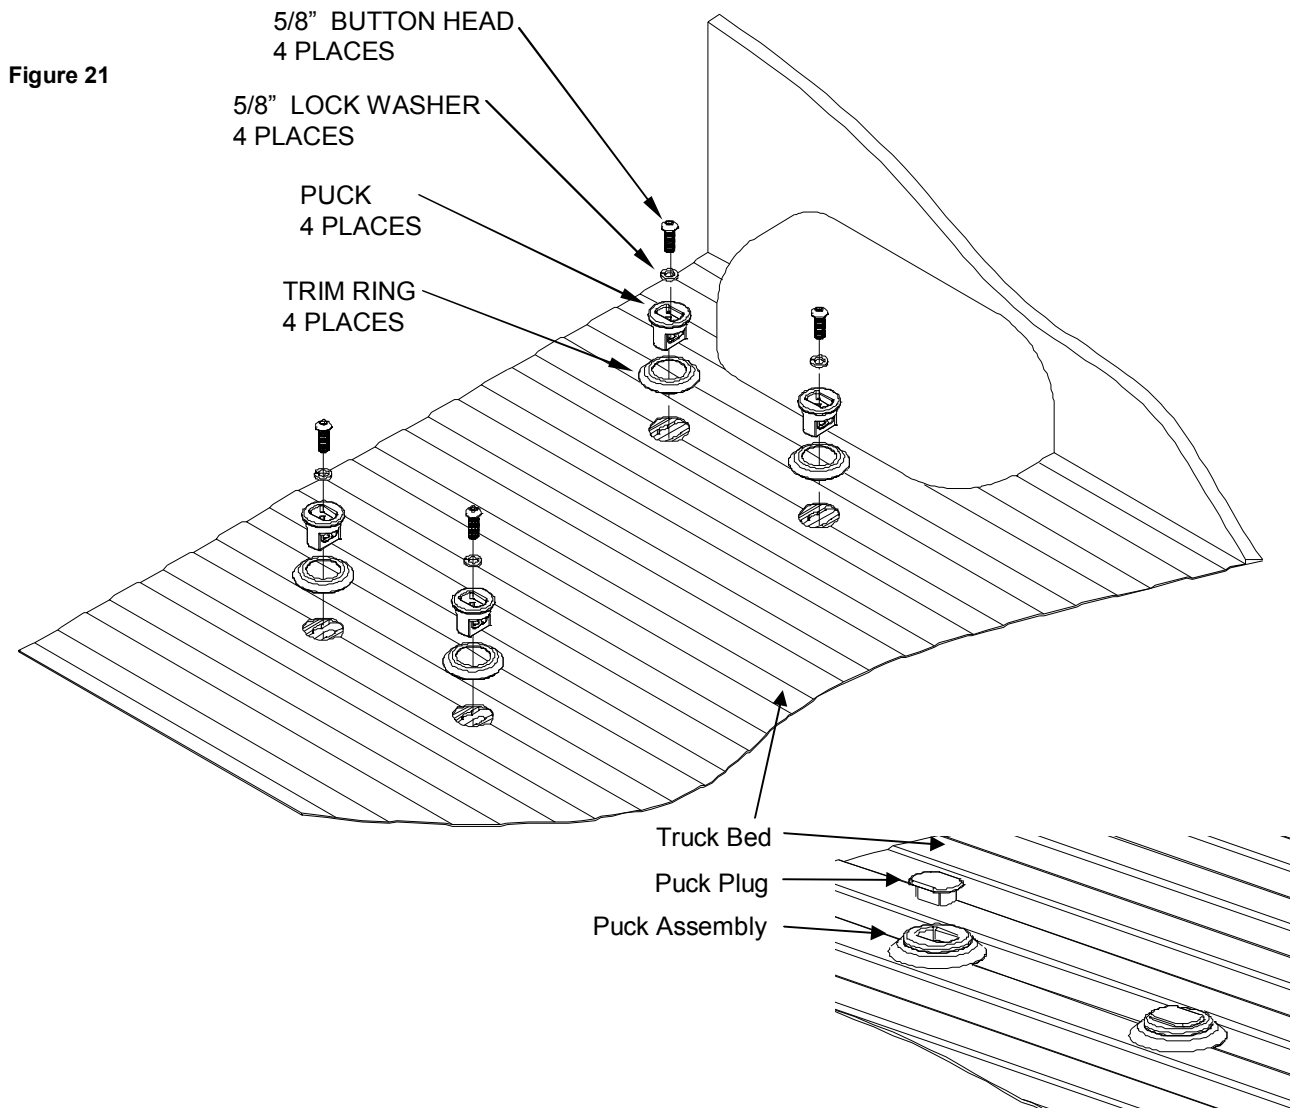

Figure 22
17. Insert puck plugs in plugs whenever pucks are not in use. (Figure 22)